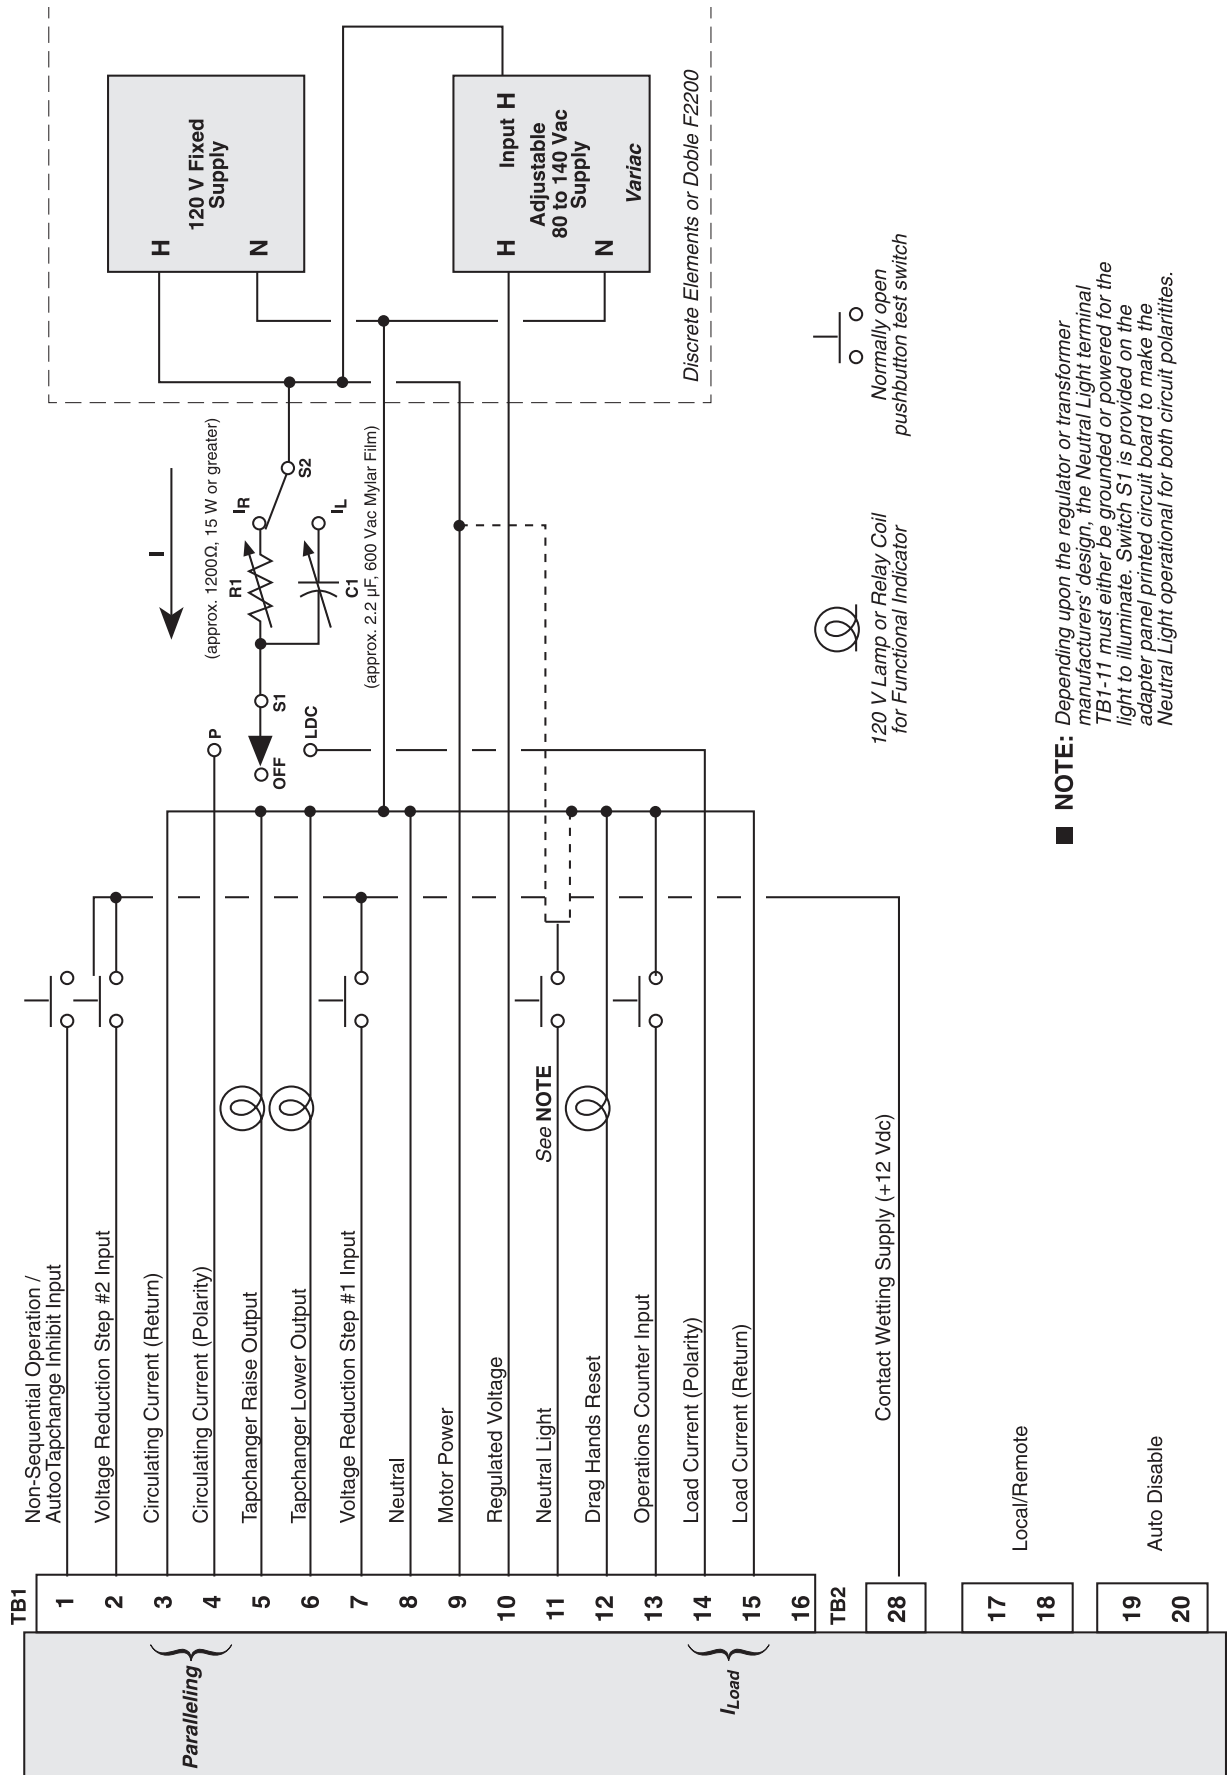

Figure 10 M-2270B Test Procedure External Connections
1. Make the electrical connections as shown in Figure 10. Refer to the applicable M-2001 Instruction Book for the locations of screens within the software.